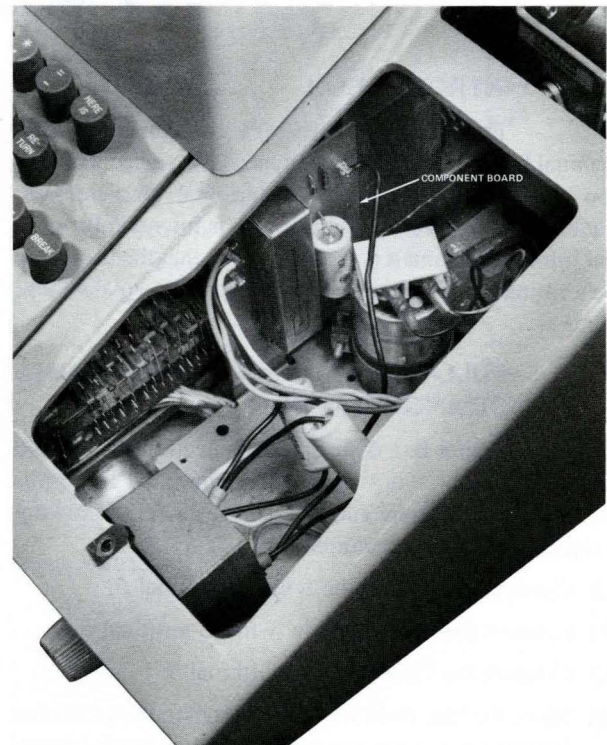

FIGURE B-3
- (b) Mount the component board onto the TTY terminal using the holes in the terminals mounting plate. Refer to Figure B-3 for the component board location.